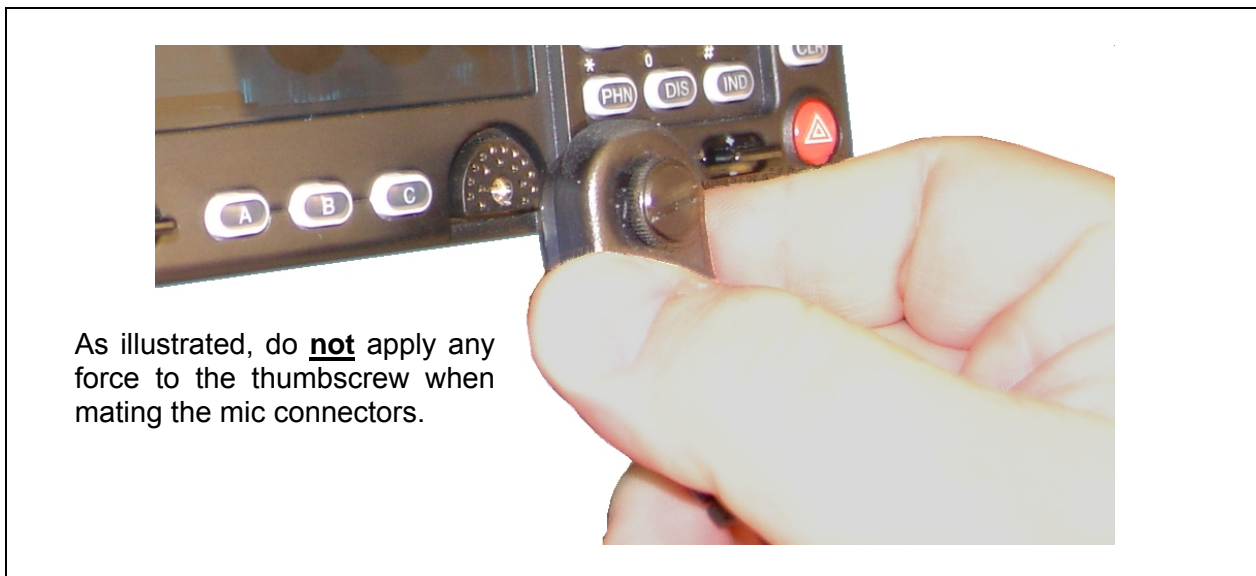

Figure 12-1: Attaching the Microphone to the CH-721 Control Head
1. As illustrated in Figure 12-1, grasp the mic's connector with a thumb and index finger on the sides of the connector just adjacent to the thumbscrew.